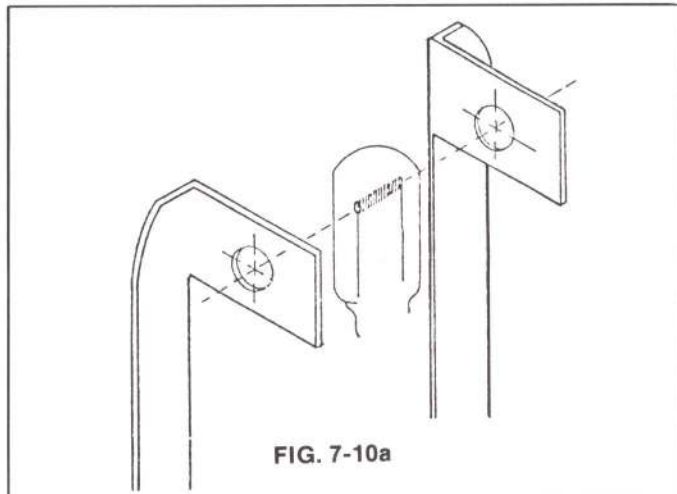

FIG. 7-10a
5. Sight thru the two holes in the socket assembly (Fig. 7-10a). Move the lamp in or out of the lamp socket so the lamp filament is centered in sight holes as shown in Fig. 7-10b.